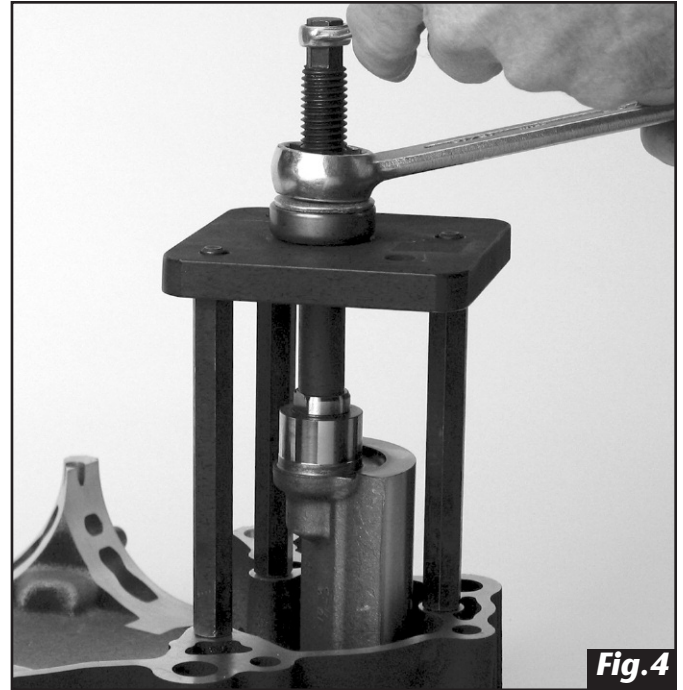

Fig. 4
4. Thread all 3 standoff shafts into threaded three holes of left case around the front or rear balancer shaft. Tighten each to 5 ft-lbs. of torque using a 1/2" deep socket. See FIG. 4.
6. Lube threads on No. 960-2 remover screw. Insert screw, small threaded end thru plate No.960-1 and into end of balancer shaft as shown in FIG. 4. Torque to no more than about 2 ft-lbs. (just hand tight.)
8. Thread nut down until it stops at washer, then, with a 15/16" wrench, turn nut at the same time holding remover screw with a 7/16" wrench. Continue to turn nut until balancer shaft and bearing is pulled from case. See FIG. 4.